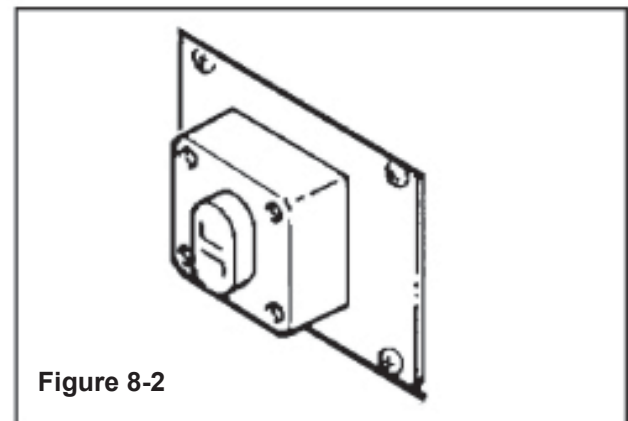

Figure 8-2
- The main switch start switch "ON" (I) (**Figure 8-2**)